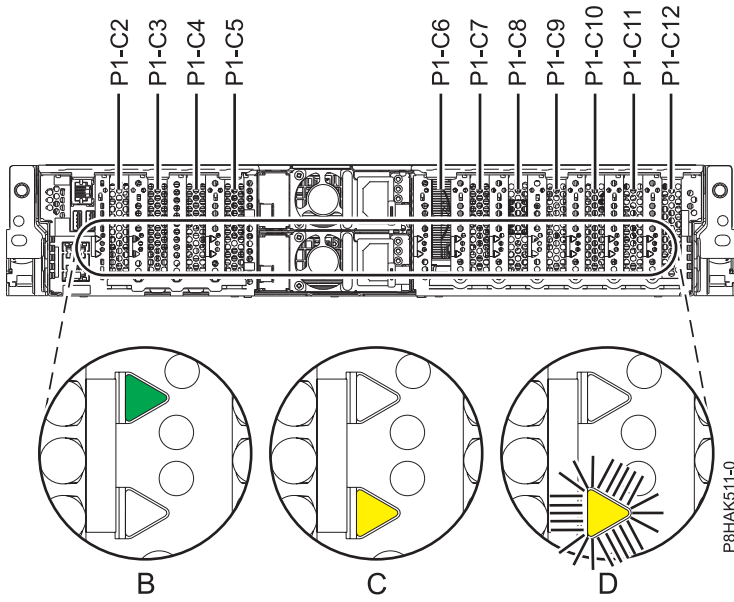

Figure 13. PCIe adapter slot locations and locations of the LEDs in the 5148-21L, 5148-22L, 8247-21L, 8247-22L, 8284-21A, or 8284-22A system
1. Familiarize yourself with the locations of PCIe adapter slots and the service indicators for the PCIe adapter that you want to service. The PCIe adapters are installed in the rear of the system. Figure 13 on page 24 shows the locations of the PCIe adapters in an 5148-21L, 5148-22L, 8247-21L, 8247-22L, 8284-21A, or 8284-22A system and the locations of the light-emitting diodes (LEDs) for the PCIe adapter.